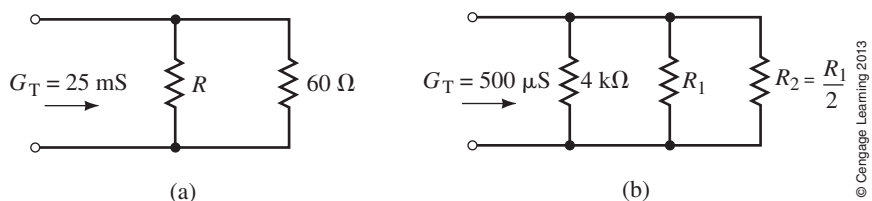

FIGURE 6-55
12. For the networks of Figure 6-55, determine the value of the unknown resistance(s) to result in the given total conductance.